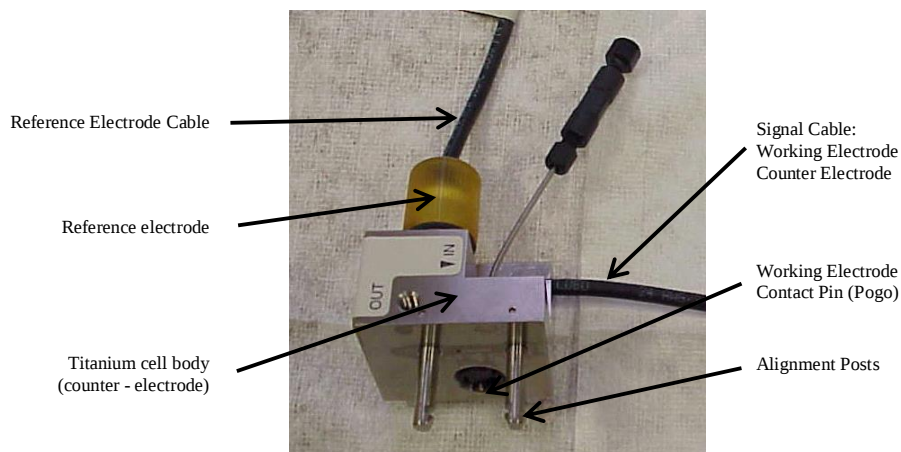
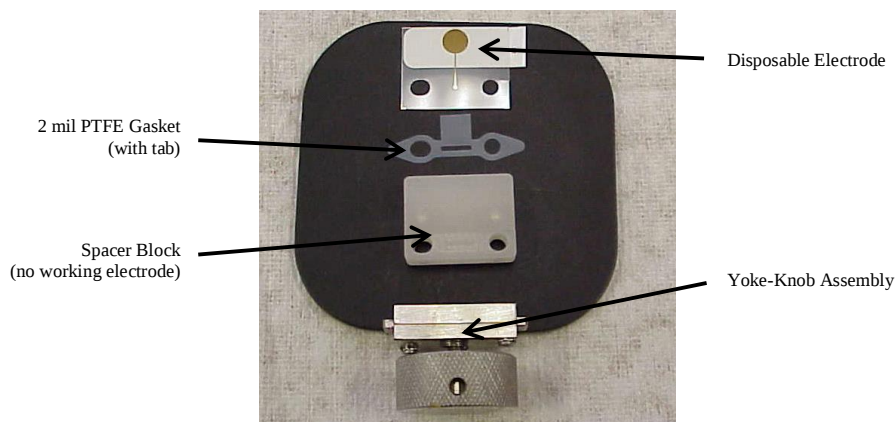
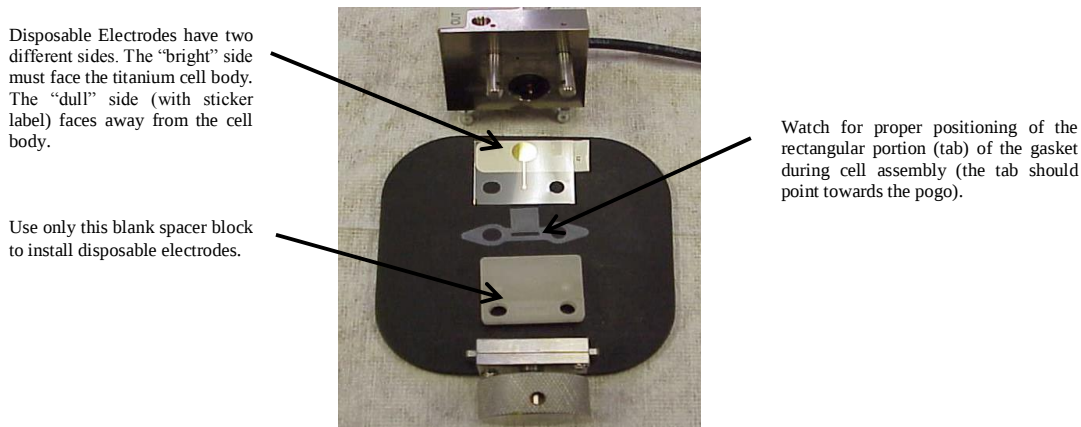

Figure 2 - The Conventional Side
Figure 3 - Parts Required for Disposable Electrode Installation
Figure 4 - Overview of Parts Used During Disposable Electrode Installation
Figure 2 shows an ED cell body with the reference electrode installed. Figure 3 shows a yoke-knob assembly and spacer block that are standard components of each ED cell. Additionally, Figure 3 also shows the disposable electrode (DE) and the PTFE gasket with a tab. DE is metal-coated on one side only. The reverse side, marked by a label, does not carry any metal.
Figure 4 shows all parts from Figures 2 and 3 in a single picture. Special attention should be paid to the additional details that are important for the correct use of disposable electrodes.